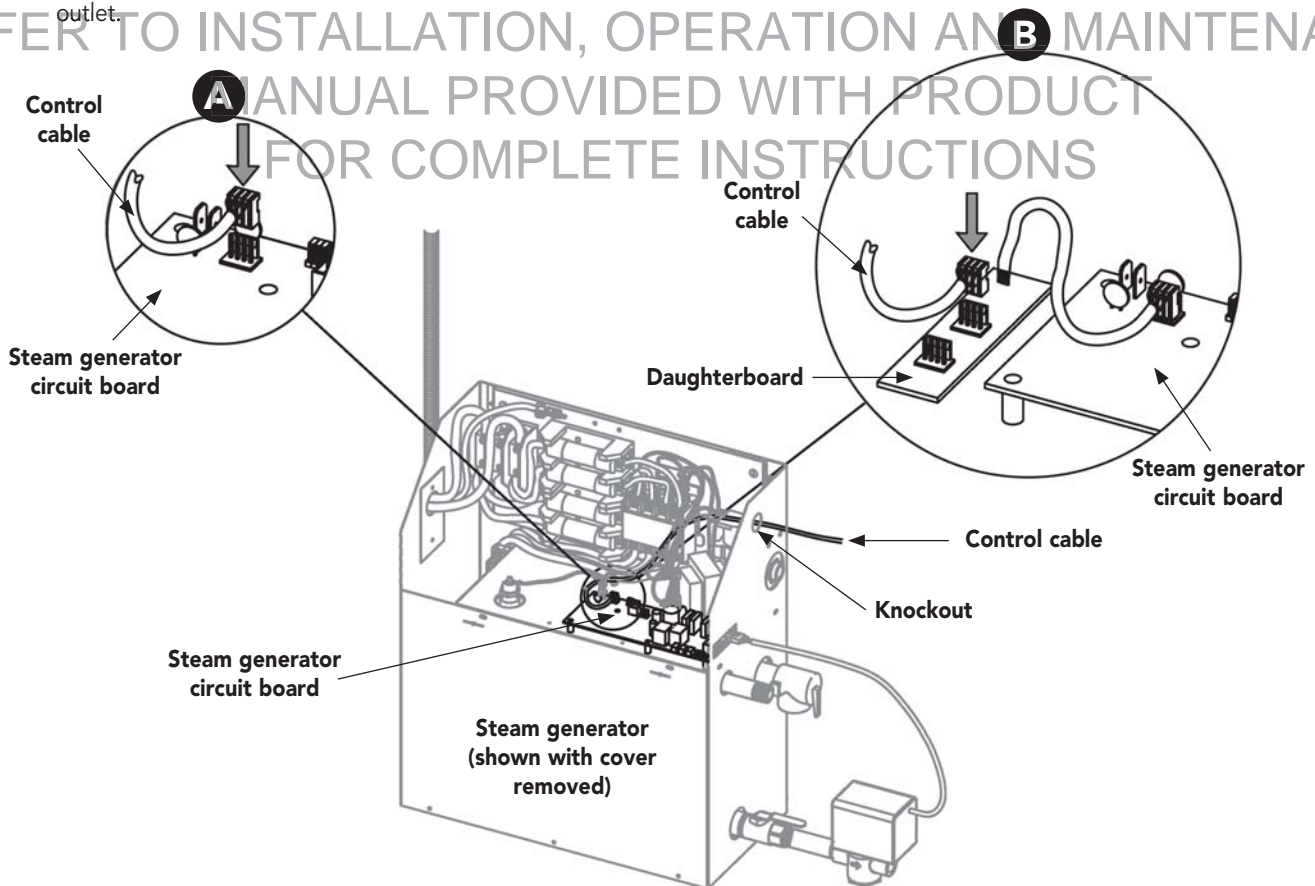

Figure 13
2. Connect the control cable directly to the steam generator's circuit board (A in Figure 13), **OR** if an additional accessory is installed in the steam generator, connect the control cable to the supplied daughterboard (B in Figure 13).